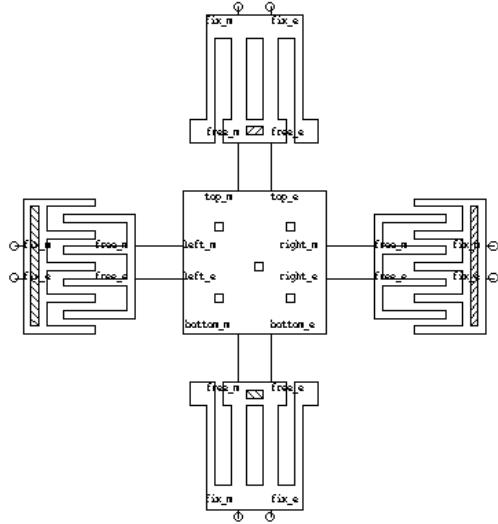

Figure 3: Schematic view of the wired elements
- Repeat this process to wire the plate with the other components (see Figure 3).